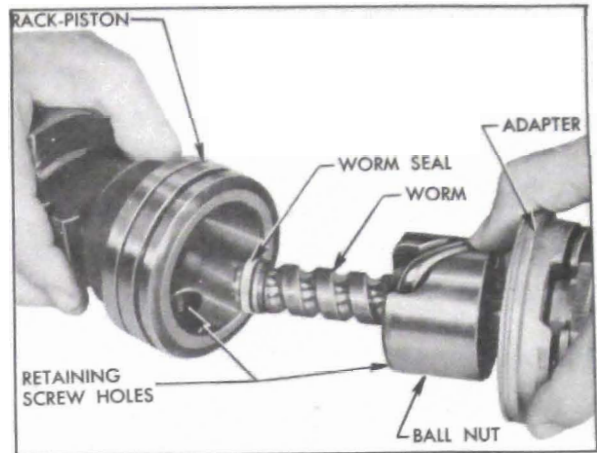

Figure 8-33—Installing Worm Assembly in Rack-Piston
8. Remove tape from the ball nut and install the worm assembly into rack-piston with ball nut retracted against adapter. The retaining screw hole should be down and aligned with the screw hole in rack-piston. Use care to prevent damage to worm seal. See Figure 8-33.